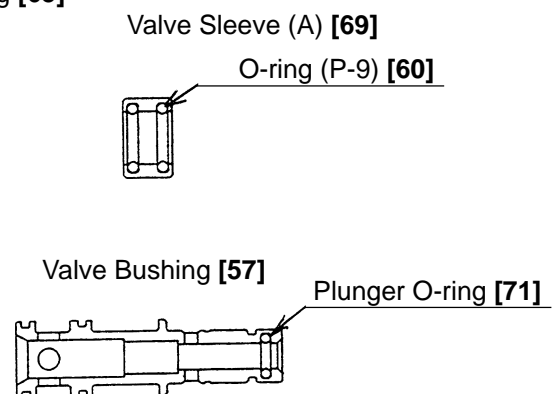

Fig. 16
- With the roll pin puller (3 mm (0.118") dia.), take out the Roll Pin D3 x 30 [68], and remove the Trigger [59], Trigger Plunger [66], Plunger (B) Spring [73], Washer M5 [72] and Plunger (B) [74].
- After removing the Trigger Valve Bushing [65], pull down strongly on the Valve Bushing [57] to remove the Valve Bushing [57], Valve Sleeve (A) [69], Plunger (A) [56] and the Plunger Spring [54].
- Remove the Plunger O-ring [71] inside the Valve Bushing [57] and the two O-rings (P-9) [60] inside Valve Sleeve (A) [69] by means of a setting pin with a rounded tip (Fig. 16).